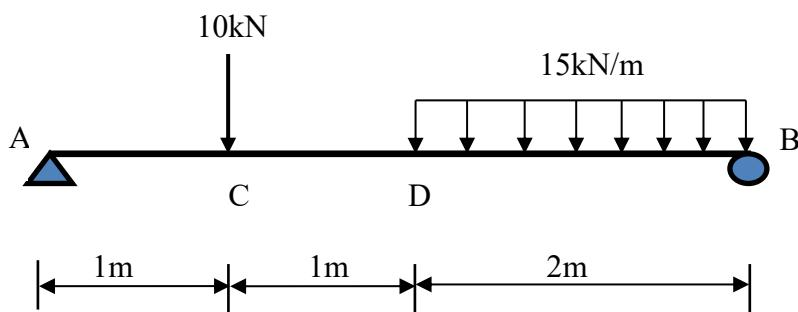

Figure B4(a) / Rajah B4(a)
- CLO2 (a) Express bending moment equation for beam shown in Figure B4(a) below by using the Macaulay's Method.